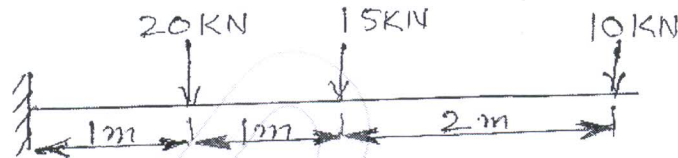

Figure: 1
2. Draw SF and BM diagrams for the cantilever shown in Figure 1. [15]